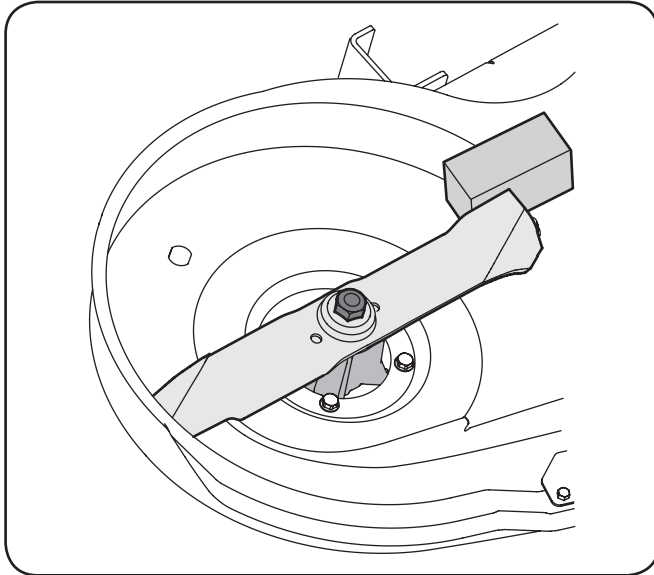

Figure 7-5
- Place a block of wood between the center deck housing baffle and the cutting blade to act as a stabilizer. See Fig. 7-5.
- Remove the hex flange nut that secures the blade to the spindle assembly. See Fig. 7-5.